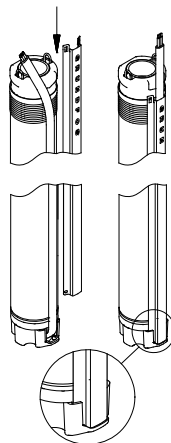

Fig. 9
2. Place the cable guard in the groove in the cable plug. The two flaps of the cable guard must engage with the upper edge of the pump sleeve. See fig. 9.